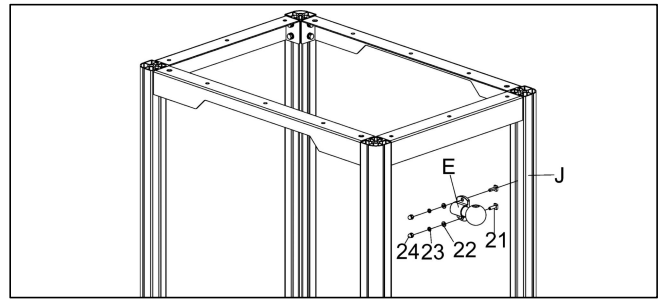

Fig.9
f. Install the handle bracket (E) at the appropriate position and height as to your preference. Use the provided fasteners (#21, #22, #23, and #24) to
secure the bracket onto the support leg (J) as shown in **Fig.9**.